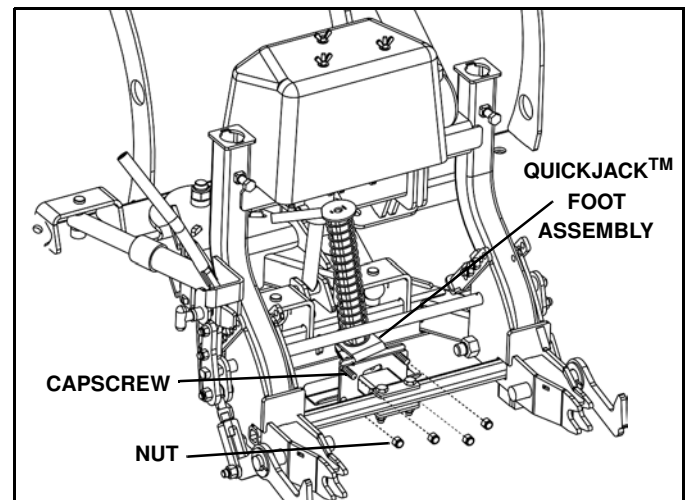

Figure 1-15
17. Install QuickJack™ foot assembly on bracket using four cap screws and nuts and install bracket to Lower Light Lift Bar using two cap screws and nuts. (See Figure 1-15).